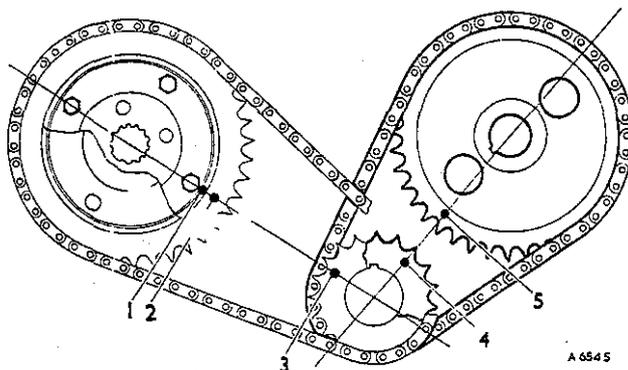

Fig. A.12
- (15) Rotate the crankshaft until the timing marks on both camshaft driving chain wheels are in the position shown in Fig. A.12.
- (16) Unscrew the nut from the end of the **camshaft**, using tool 18G 98 A.
- (17) Unscrew the two bolts and remove the camshaft driving chain tensioner.
- (39) Reverse the procedure in (16) to (19), noting the following points:
- (b) When the driving chain and wheels are assembled to their respective shafts ensure that the timing marks line up as shown in Fig. A.12.
- (40) Reverse the procedure in (9) to (14), noting the following points:
- (a) Check and adjust the chain wheel alignment as described in (39) (a), but in this case the teeth faces should be in line.
- (b) The timing marks on both chain wheels and on the injection pump driving flange should be positioned as shown in Fig. A.12 when they are assembled to the engine.
- (c) Refit the chain tensioner as described in (39) (c).
- (17) Fit the main bearings and thrust washers to the crankcase and caps, fit the crankshaft and caps to the crankcase; tighten the main bearing cap bolts to the torque figure given in 'GENERAL DATA'.
- (18) Refit the front plate and timing gear by reversing the procedure in Section A.9, (25) to **(28)**, (7) to **(19)**, and (2) to **(5)**, noting the following points:
- (a) Check the chain wheel alignment as described in Section A.9, (39) **(a)** and (40) (a).
- (b) Refit the timing chain tensioners as described in Section A.9, (39) **(c)**.
- (c) Ensure that the timing marks line up as shown in Fig. A.12.
- (19) Ensure that the connecting rod big-end bearings are correctly located in the rods and caps. Refit the connecting rods to the crankshaft noting that the bolt heads should be towards the camshaft side of the engine, and tighten the bolts to the torque figure given in 'GENERAL DATA'.